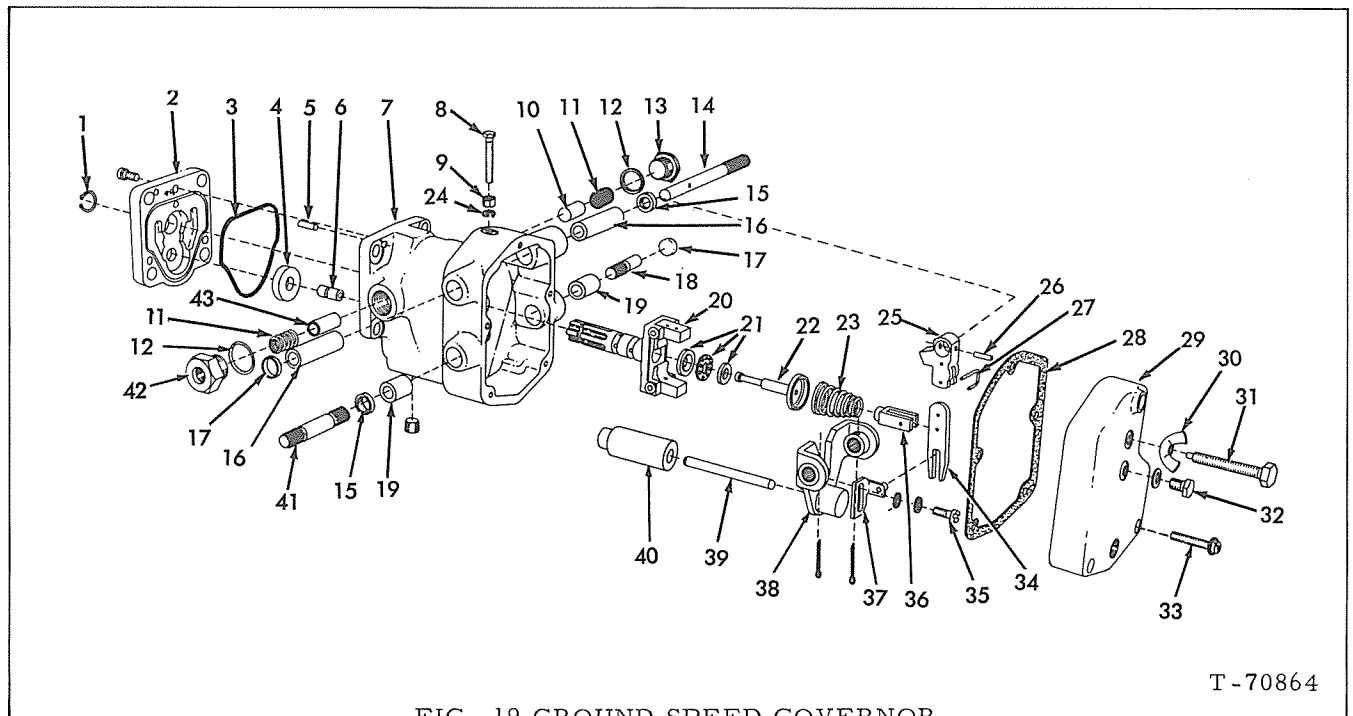

FIG. 19 GROUND SPEED GOVERNOR
- d. Remove cotter pins, Fig. 17 (9), terminal shaft Fig. 19 (41) and stub shaft (18). Remove terminal lever assembly, power piston pin (39) and piston (40) from housing.
- f. Remove base, Fig. 19 (2), sealing ring (3), and spacer (4); remove oil inlet plug (42), spring (11), and sleeve (43).
NOTE: Do not remove terminal shaft bearings, Fig. 19 (19) or speed control shaft bearings (16) unless shafts are excessively worn.
- b. Install oil inlet sleeve, Fig. 19 (43) and spring (11) in bore; install oil inlet plug (42) with washer (12).
- c. Install spacer Fig. 19 (4) and stud (6); install base (2) on housing (use new sealing ring).
- d. Install ballhead assembly Fig. 19 (20), power piston (40) and pin (39) in housing; install ballhead snap ring, Fig. 18.
- h. With ballarms, Fig. 17 (15) in collapsed position, install thrust bearings, Fig. 19 (21), ballhead valve plunger (22), spring (23), and ballhead spring fork (36) on ballhead assembly.